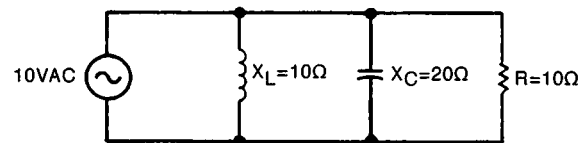

Figure 5-58
2. What is the impedance of the circuit shown in Figure 5-58?